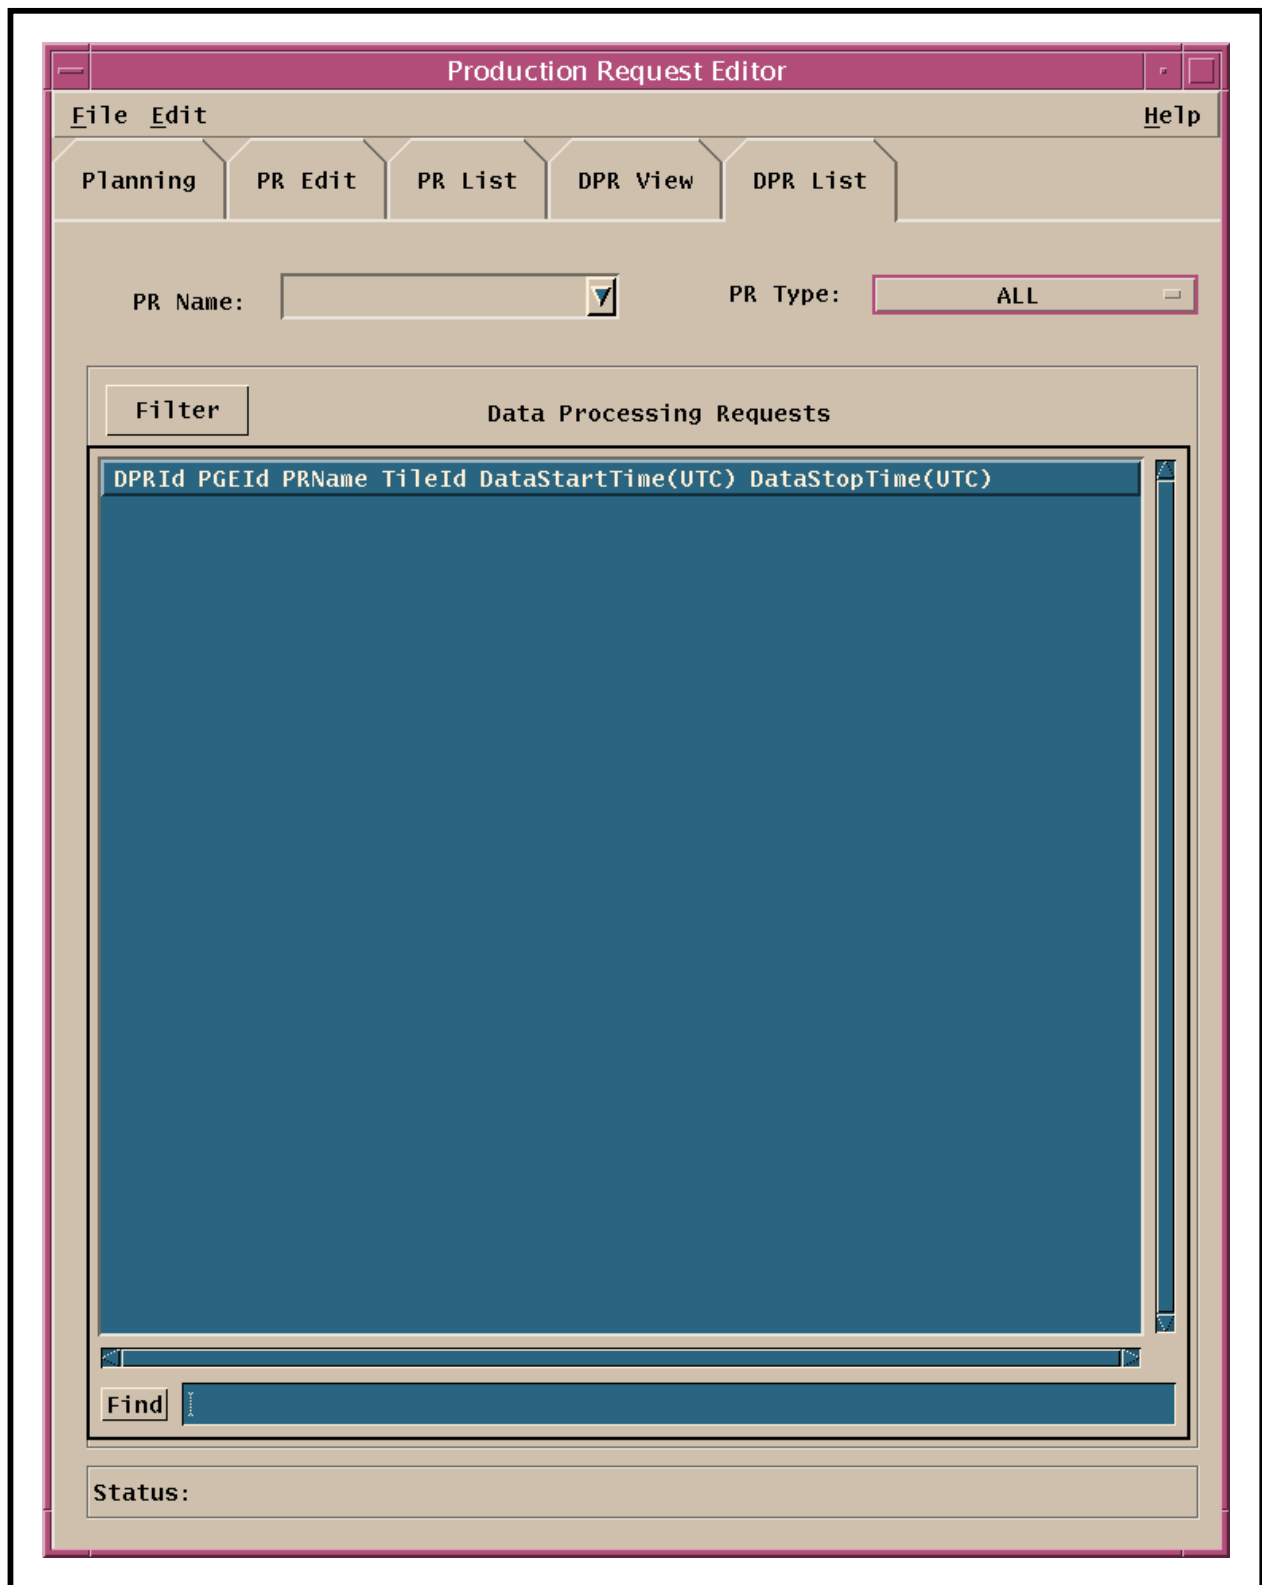

Figure 29. DPR List GUI
- The **DPR List** GUI page (Figure 29) is displayed.